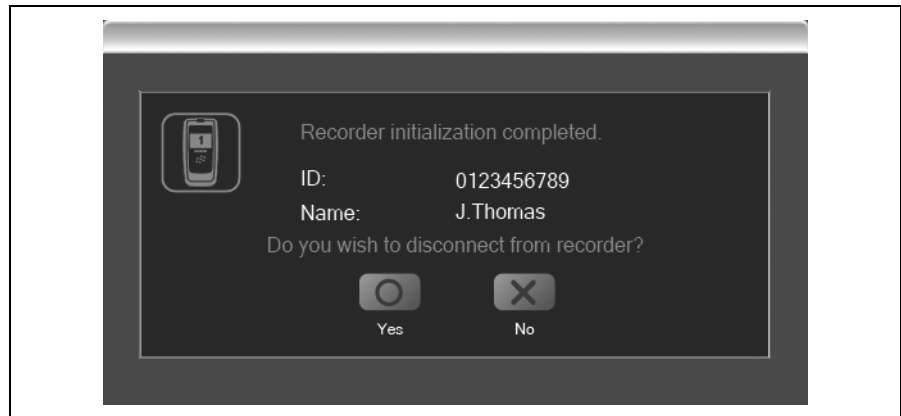

Figure 5.18
7. Patient information is transmitted to the recorder unit. After transmission is completed, the initial setup completion screen is displayed (see Figure 5.18).